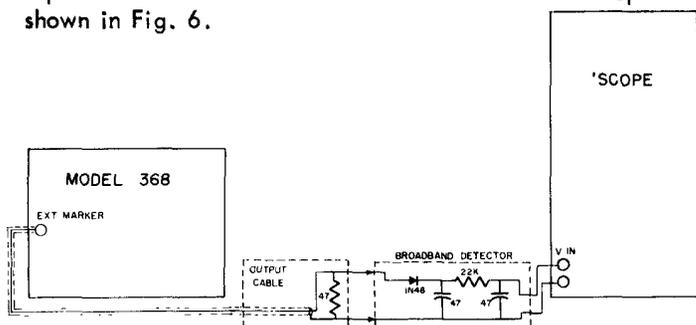

Fig. 6
- 3) Wire the broad-band detector circuit shown below to the V input terminals of your scope, using the shortest possible leads between the components and the scope terminals. Connect the other end of the Output cable to the input terminals of the broad-band detector. The set-up is shown in Fig. 6.